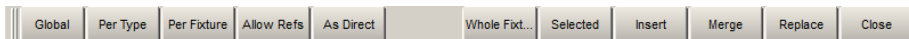

Figure 17.7. The More... Section of the Record Options Toolbar
3. The Record Options Toolbar will appear on the bottom of the right-hand touch screen. Select More, then Per Fixture; see Figure 17.7, “The More... Section of the Record Options Toolbar”.